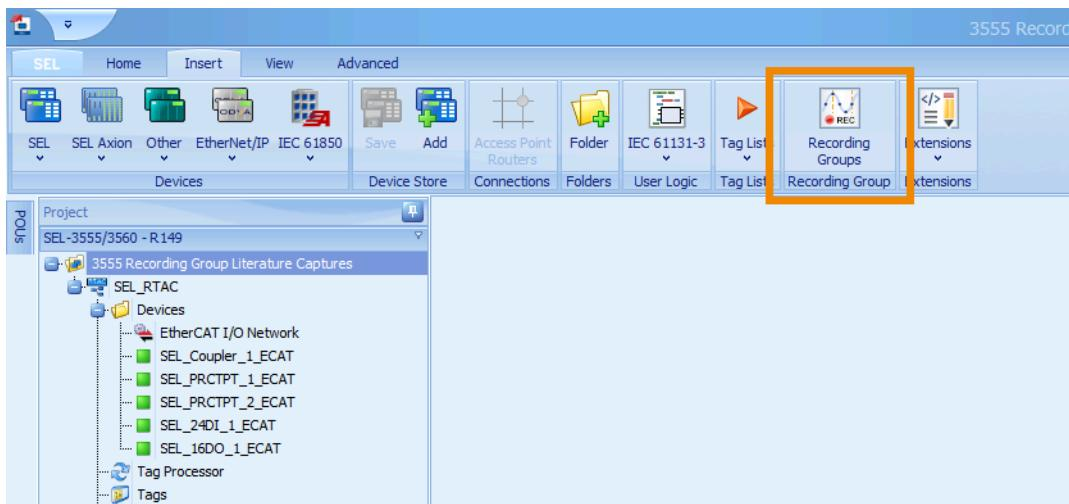

Figure 2.103 Insert a New Recording Group
- Step 1. Select the Recording Groups icon in the Insert menu in ACSELERATOR RTAC, as shown in *Figure 2.103*.